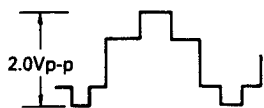

Figure 63.
2. Monitoring TP401 with an oscilloscope (external trigger at TP508), adjust R426 (PB LEV) to make to 2.0Vp-p (see Figure 63).